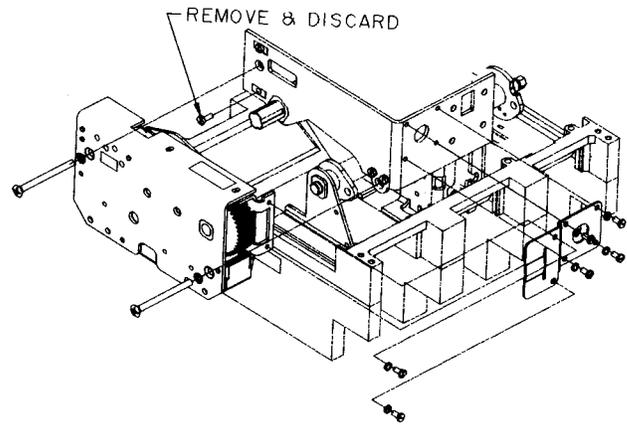
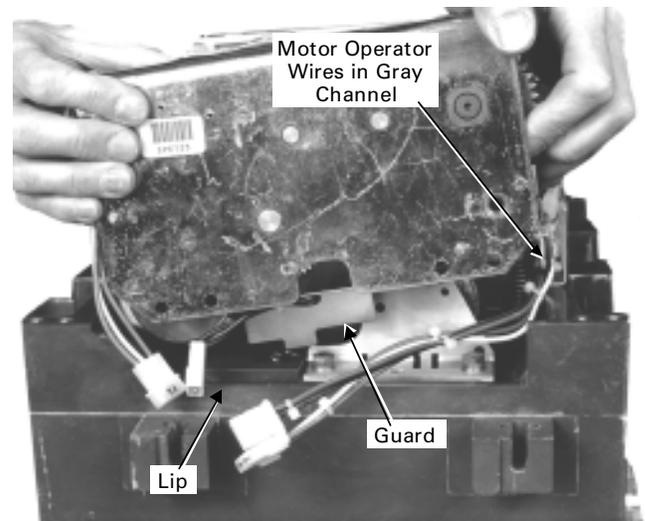
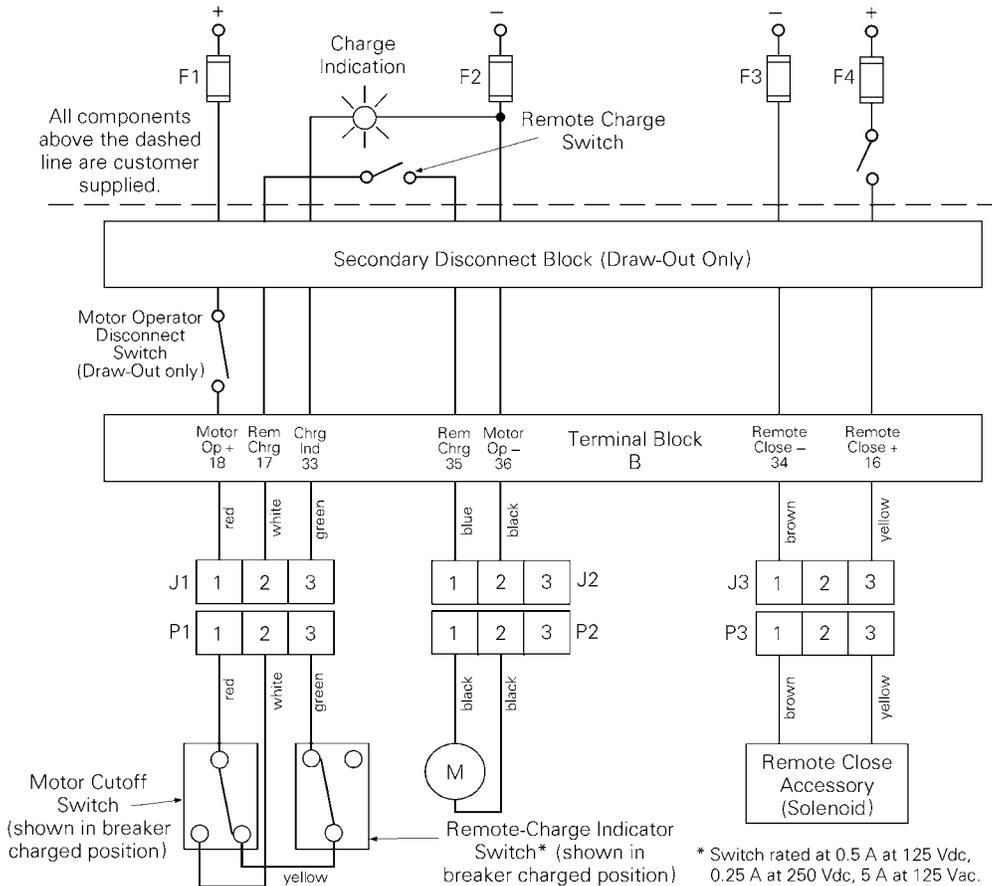

Figure 4. Installing the Motor Operator Mechanism onto the breaker.
Figure 5. Rotating the Motor Operator Mechanism so that the guard clears the lip on the side of the circuit breaker.
Figure 6. Wiring diagram of the Motor Operator Mechanism and Remote Close accessories.
The circuit breaker closing springs can be charged remotely by shorting terminals 17 and 35 on the terminal block on the right side of the breaker, with a push button or similar device, for a minimum of five seconds. Power for the Motor Operator must also be applied to terminals 18 and 36, as shown in the wiring diagram in Figure 6.
9. **Remove and discard the bottom screw, shown in Figure 4, that attaches the stop block to the spring frame.**
11. While holding the charge arm of the Motor Operator Mechanism in the discharged position, align the splined closing shaft of the breaker with the splined cutout in the hub of the charge arm, as shown in Figure 4. Tilt the right end of the mechanism up so that the guard (see Figure 2) clears the lip on the side of the breaker, as shown in Figure 5. Push the Motor Operator Mechanism in past the lip, rotate it back down, then push it
14. Thread a 1/4–20 flat-head screw and conical lock washer through the spacer and into the stop block, as illustrated in Figure 4. Thread the other 1/4–20 flat-head screw and conical lock washer through the spacer into the captive nut in the spring frame. Tighten both screws to 70 in-lb.
15. Plug the color-coded, numbered Motor Operator Mechanism wires into the corresponding numbered sockets, as illustrated in Figure 6. Mating connector wires are installed at the factory and are located in the gray-painted channel, shown in Figure 5
17. **Remove and discard the bottom screw that attaches the stop block to the spring frame, shown in Figure 4.**
18. Attach the mounting bracket, as shown in Figures 4 and 19, with four #10-32 screws tightened to 32 in-lb torque. The bend of the bracket must be outward from the spring frame.
22. Thread a 1/4–20 flat-head screw and conical lock washer through the spacer and into the stop block, as illustrated in Figure 4. Thread the other 1/4–20 flat-head screw and conical lock washer through the spacer into the captive nut in the spring frame. Tighten both screws to 70 in-lb.
23. Plug the color-coded, numbered Motor Operator Mechanism wires into the corresponding numbered sockets on the wires coming from the secondary terminal block, as illustrated in Figure 6.